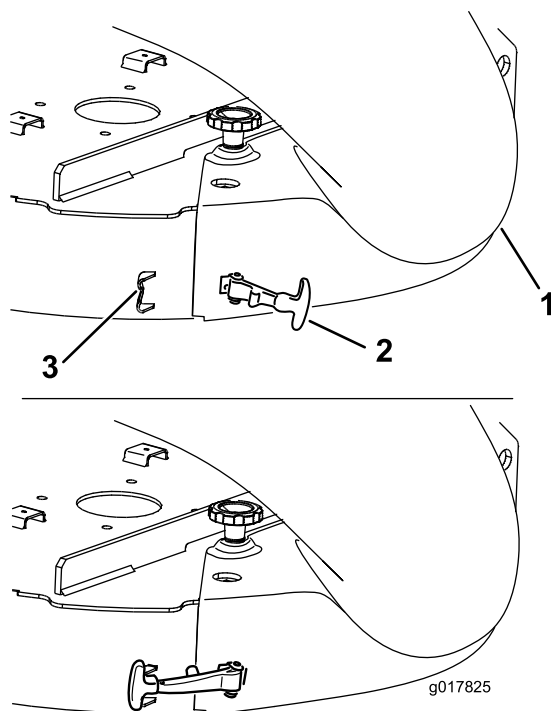

Figure 27
7. Hook the flexible latch on the chute to the retaining clasp welded on the mower deck to the rear of the opening (Figure 27).